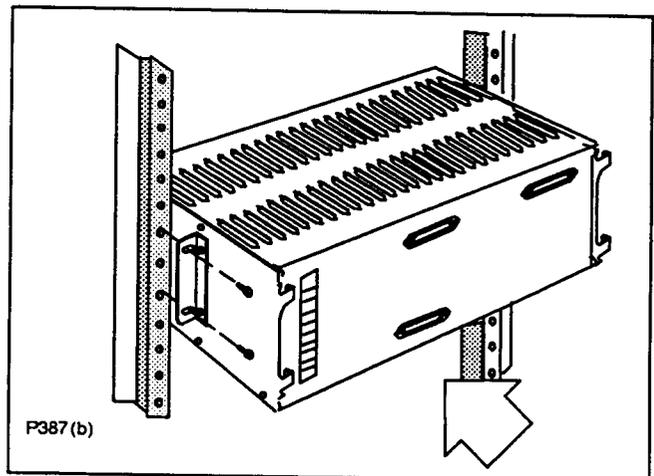

Figure 6. Rear Rack Mount
- (a) From the rear of the relay rack, position the COT shelf in its relay rack mounting location (Figure 6).